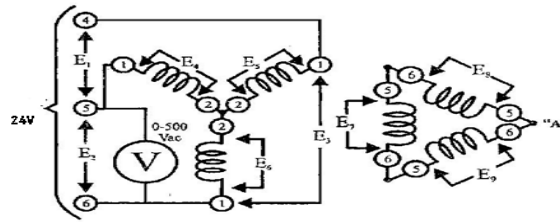

Figure 4.5: Wye-Delta (Y-Δ)
1. Using your Transformer Trainer connect the circuit as shown in Figure 4.5.